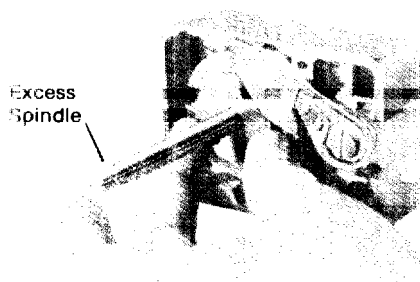

Figure 3
Caution: Lock mounting bedplate and dial ring mount surface must be parallel. Dial ring center line must be precisely aligned with lock spindle center line (see Fig. 3).
6. Measure the excess spindle that projects beyond the drive cam (Fig. 3).